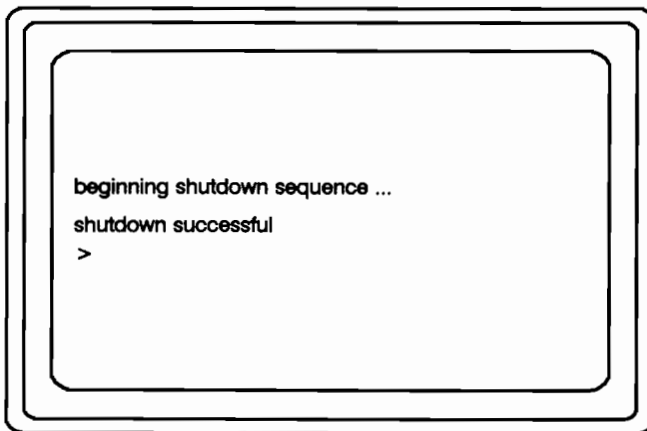

Figure 3-17. Successful Shutdown Sequence
3. When you see the message shown in Figure 3-17, shut off both the monitor and the system unit power switches.